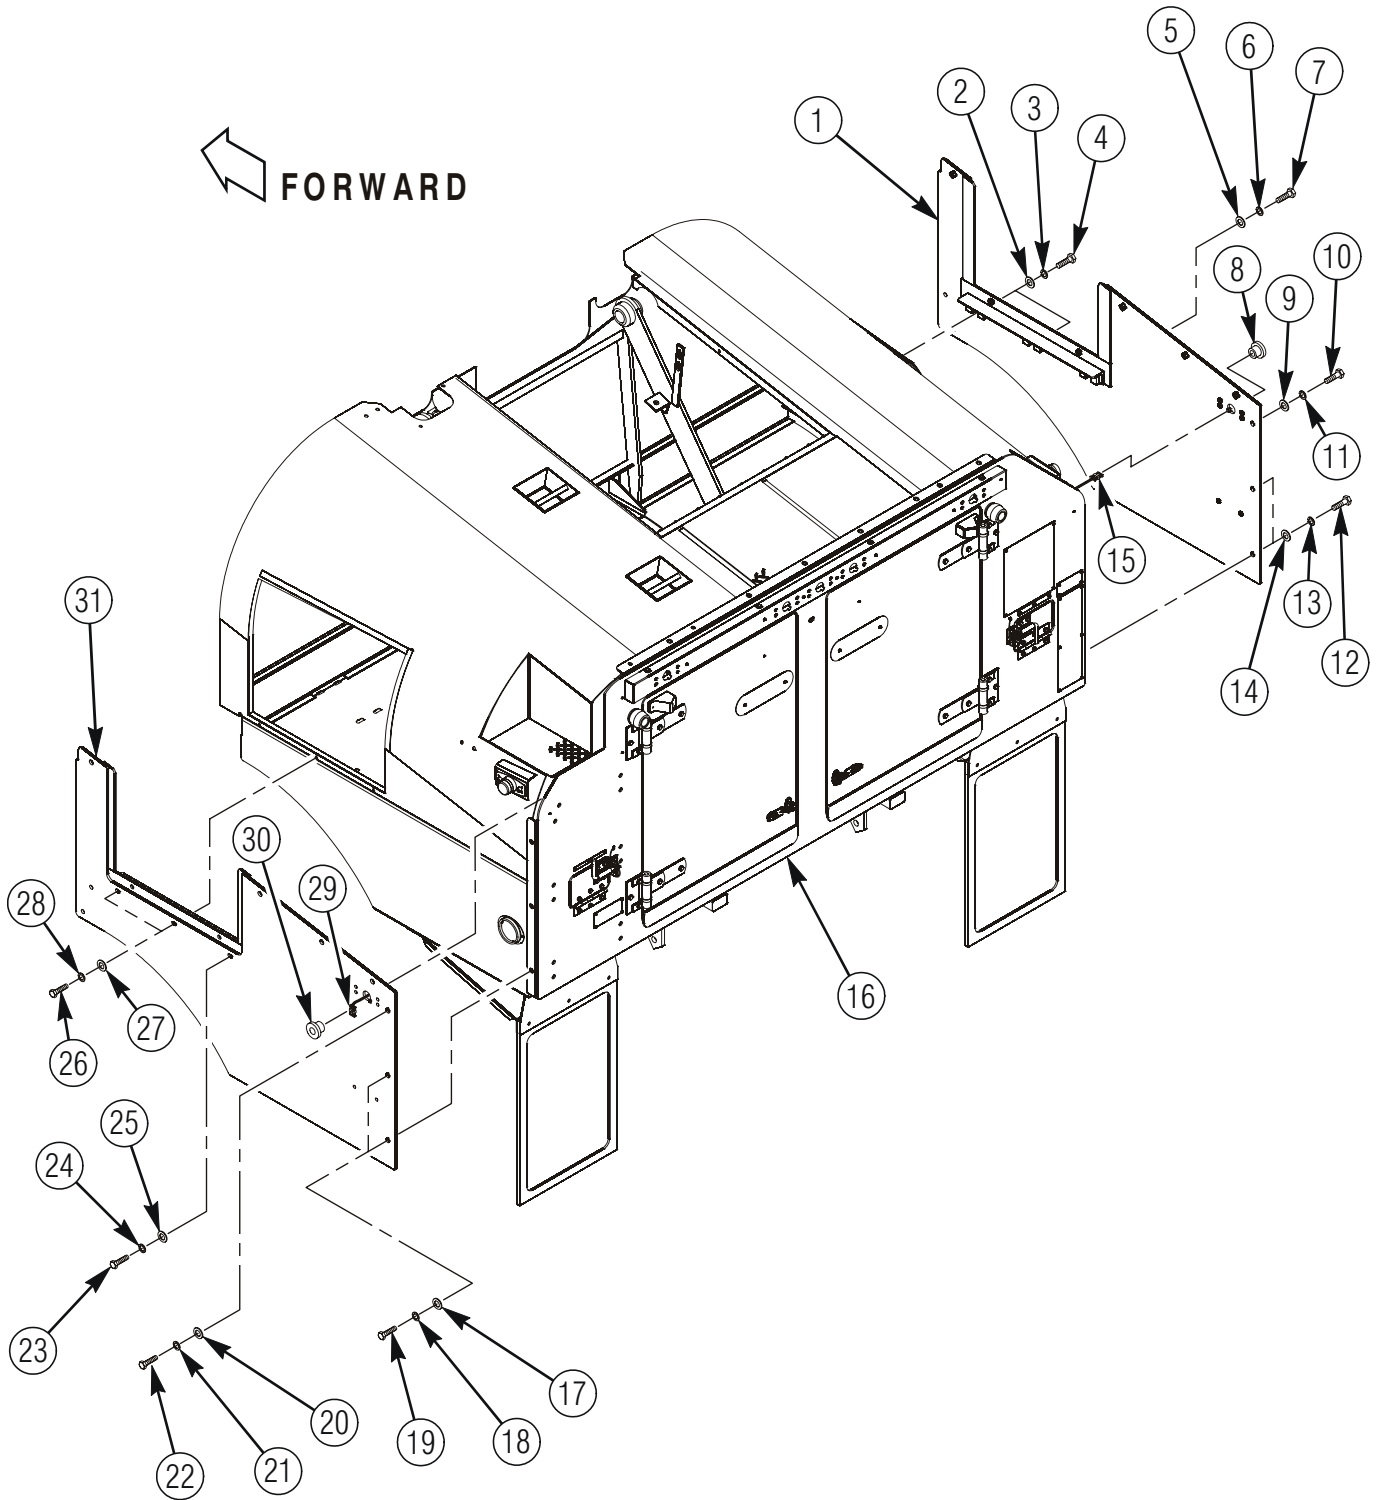

Figure 3.
1. Install 6433059-01M1 or 6433059-200M1 left lower side panel assembly (31) and route lamp wiring harness connector (29) through hole near upper rear corner as shown in figure 3.
2. Secure lower rear edge of left lower side panel assembly (31) to rear panel assembly (16) with two 4397000-382 capscrews (19), 4397004-009 lockwashers (18), and 4397005-016 washers (17) as shown in figure 3. Do not tighten capscrews (19) at this time.
3. Install two 4397000-041 capscrews (26), 4397004-007 lockwashers (28), and 4397005-013 washers (27) as shown in figure 3. Do not tighten capscrews (26) at this time.
4. Install 3286740 tanker light grommet (30) in left lower side panel assembly (31) and snap wiring harness into grommet (30). Refer to figure 3.
5. Install 4397000-382 capscrew (22), 4397004-009 lockwasher (21), and 4397005-016 washer (20) in upper rear edge of left lower side panel assembly (31) as shown in figure 3. Do not tighten capscrew (22) at this time.
6. Install 4397000-041 capscrew (23), 4397004-007 lockwasher (24), and 4397005-013 washer (25) as shown in figure 3. Do not tighten capscrew (23) at this time.
7. Install 6433058-01M1 or 6433058-200M1 right lower side panel assembly (1) and route lamp wiring harness connector (15) through hole near upper rear corner as shown in figure 3.
8. Secure lower rear edge of right lower side panel assembly (1) to rear panel assembly (16) with two 4397000-382 capscrews (12), 4397004-009 lockwashers (13), and 4397005-016 washers (14) as shown in figure 3. Do not tighten capscrews (12) at this time.
9. Install two 4397000-041 capscrews (4), 4397004-007 lockwashers (3), and 4397005-013 washers (2) as shown in figure 3. Do not tighten capscrews (4) at this time.
10. Install 3286740 tanker light grommet (8) in right lower side panel assembly (1) and snap wiring harness into grommet (8). Refer to figure 3.
11. Install 4397000-382 capscrew (10), 4397004-009 lockwasher (11), and 4397005-016 washer (9) in upper rear edge of right lower side panel assembly (1) as shown in figure 3. Do not tighten capscrew (10) at this time.
12. Install 4397000-041 capscrew (7), 4397004-007 lockwasher (6), and 4397005-013 washer (5) as shown in figure 3. Do not tighten capscrew (7) at this time.
11. Tighten three capscrews (4) to 37 lb-ft. Refer to figure 3.
12. Tighten three capscrews (5) securing rear edge of right lower side panel assembly (1) to rear panel assembly (8) to 60 lb-ft. Refer to figure 3.
13. Tighten three capscrews (13) to 37 lb-ft. Refer to figure 3.
14. Tighten three capscrews (10) securing rear edge of left lower side panel assembly (15) to rear panel assembly (8) to 60 lb-ft. Refer to figure 3.